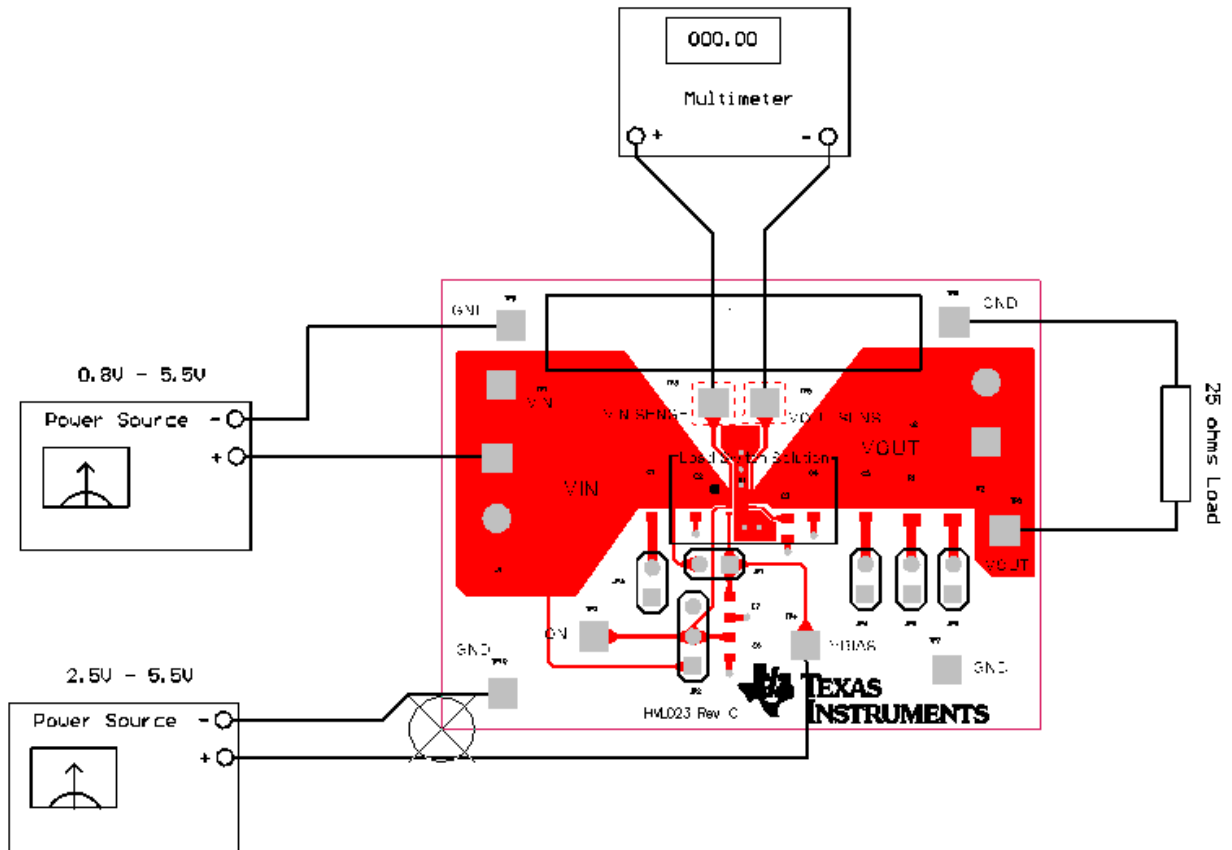

Figure 5. TPS22967EVM-023 Recommended Ron Test Set Up
Figure 5 shows a typical setup for R_{ON} testing of the EVM. VBIAS voltage must be present for the device to function. Place a shunt across JP1 to connect VBIAS to VIN voltage source, if VIN supply is used below 2.5V remove the shunt and connect VBIAS voltage to a voltage source greater or equal to 2.5V.
1. Setup the EVM per Figure 5.